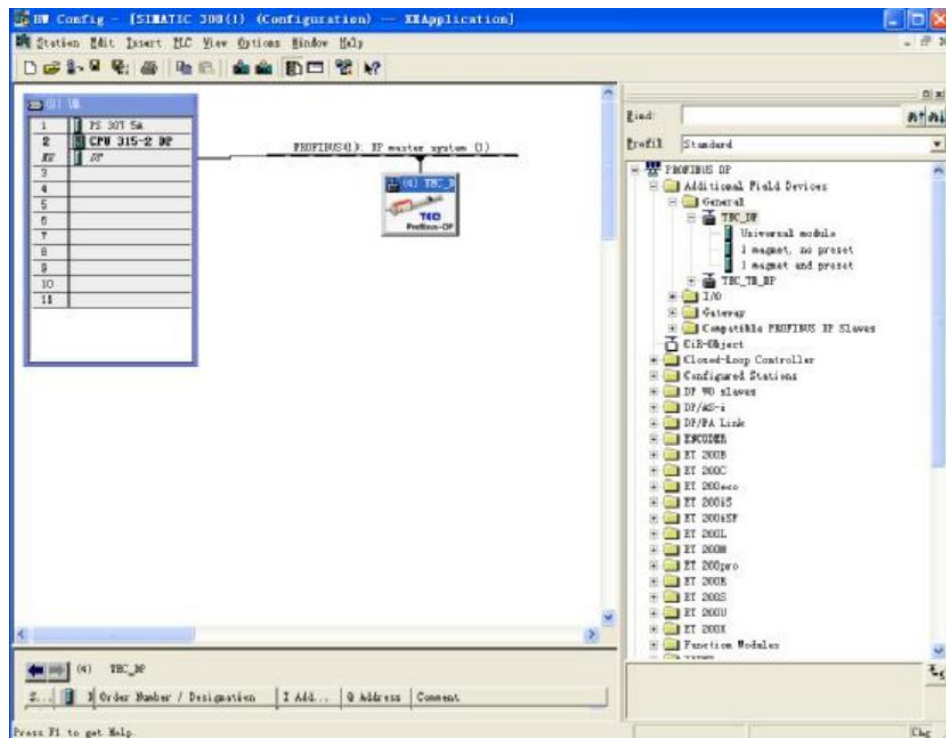

Figure 12
(2) Configure the PROFIBUS input/output of TEC_DP
① In the Hardware Catalog, open the TEC_DP directory in PROFIBUS DP\Additional Field Devices\General\. As shown in Figure 12.
② There are two slots (logically, non-physical devices) in TEC_DP. Select one slot and double-click "1 magnet, no preset" in TEC_DP. Figure 12 shows the result of adding "1 magnet, no preset" to the 1# slot.